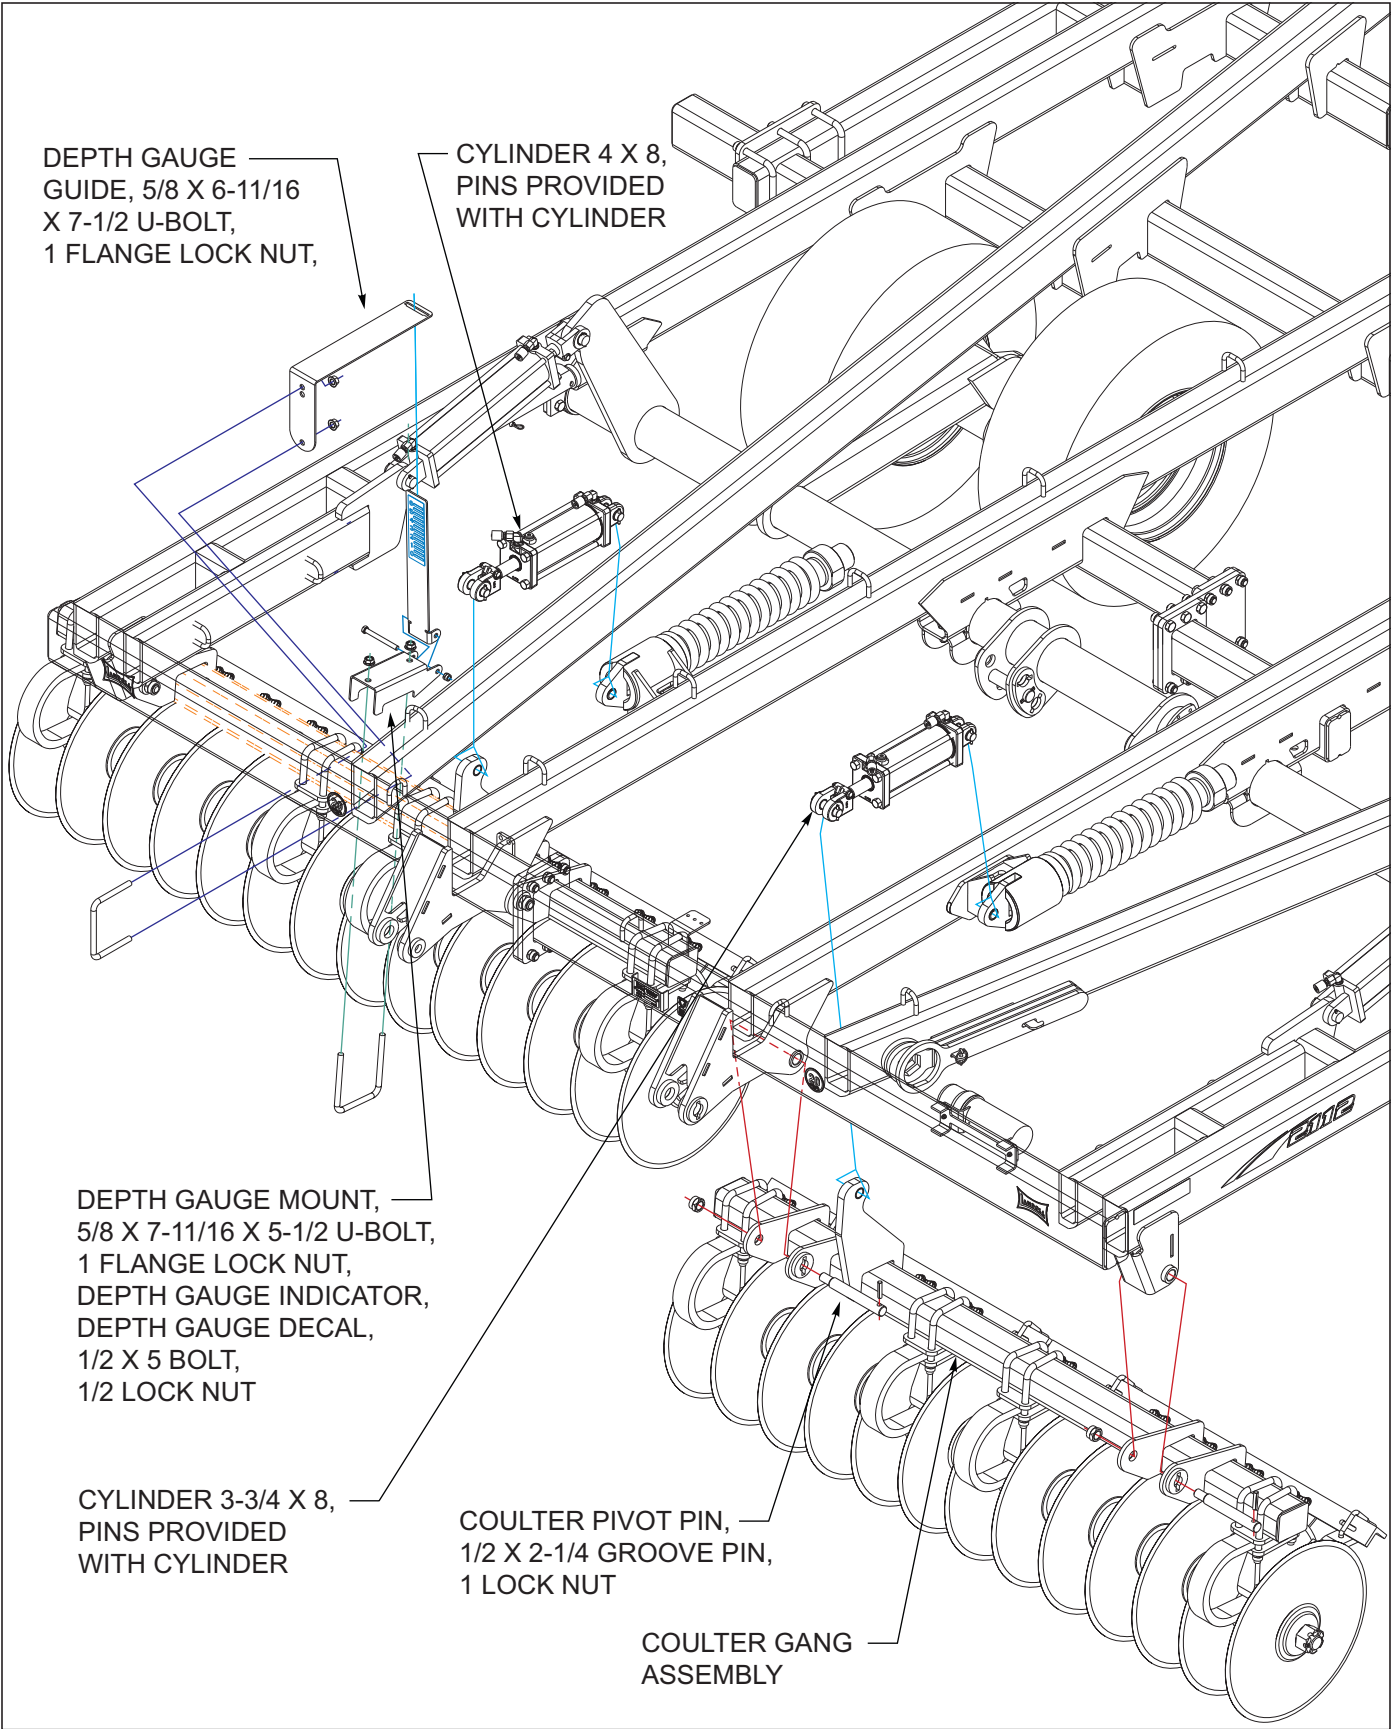
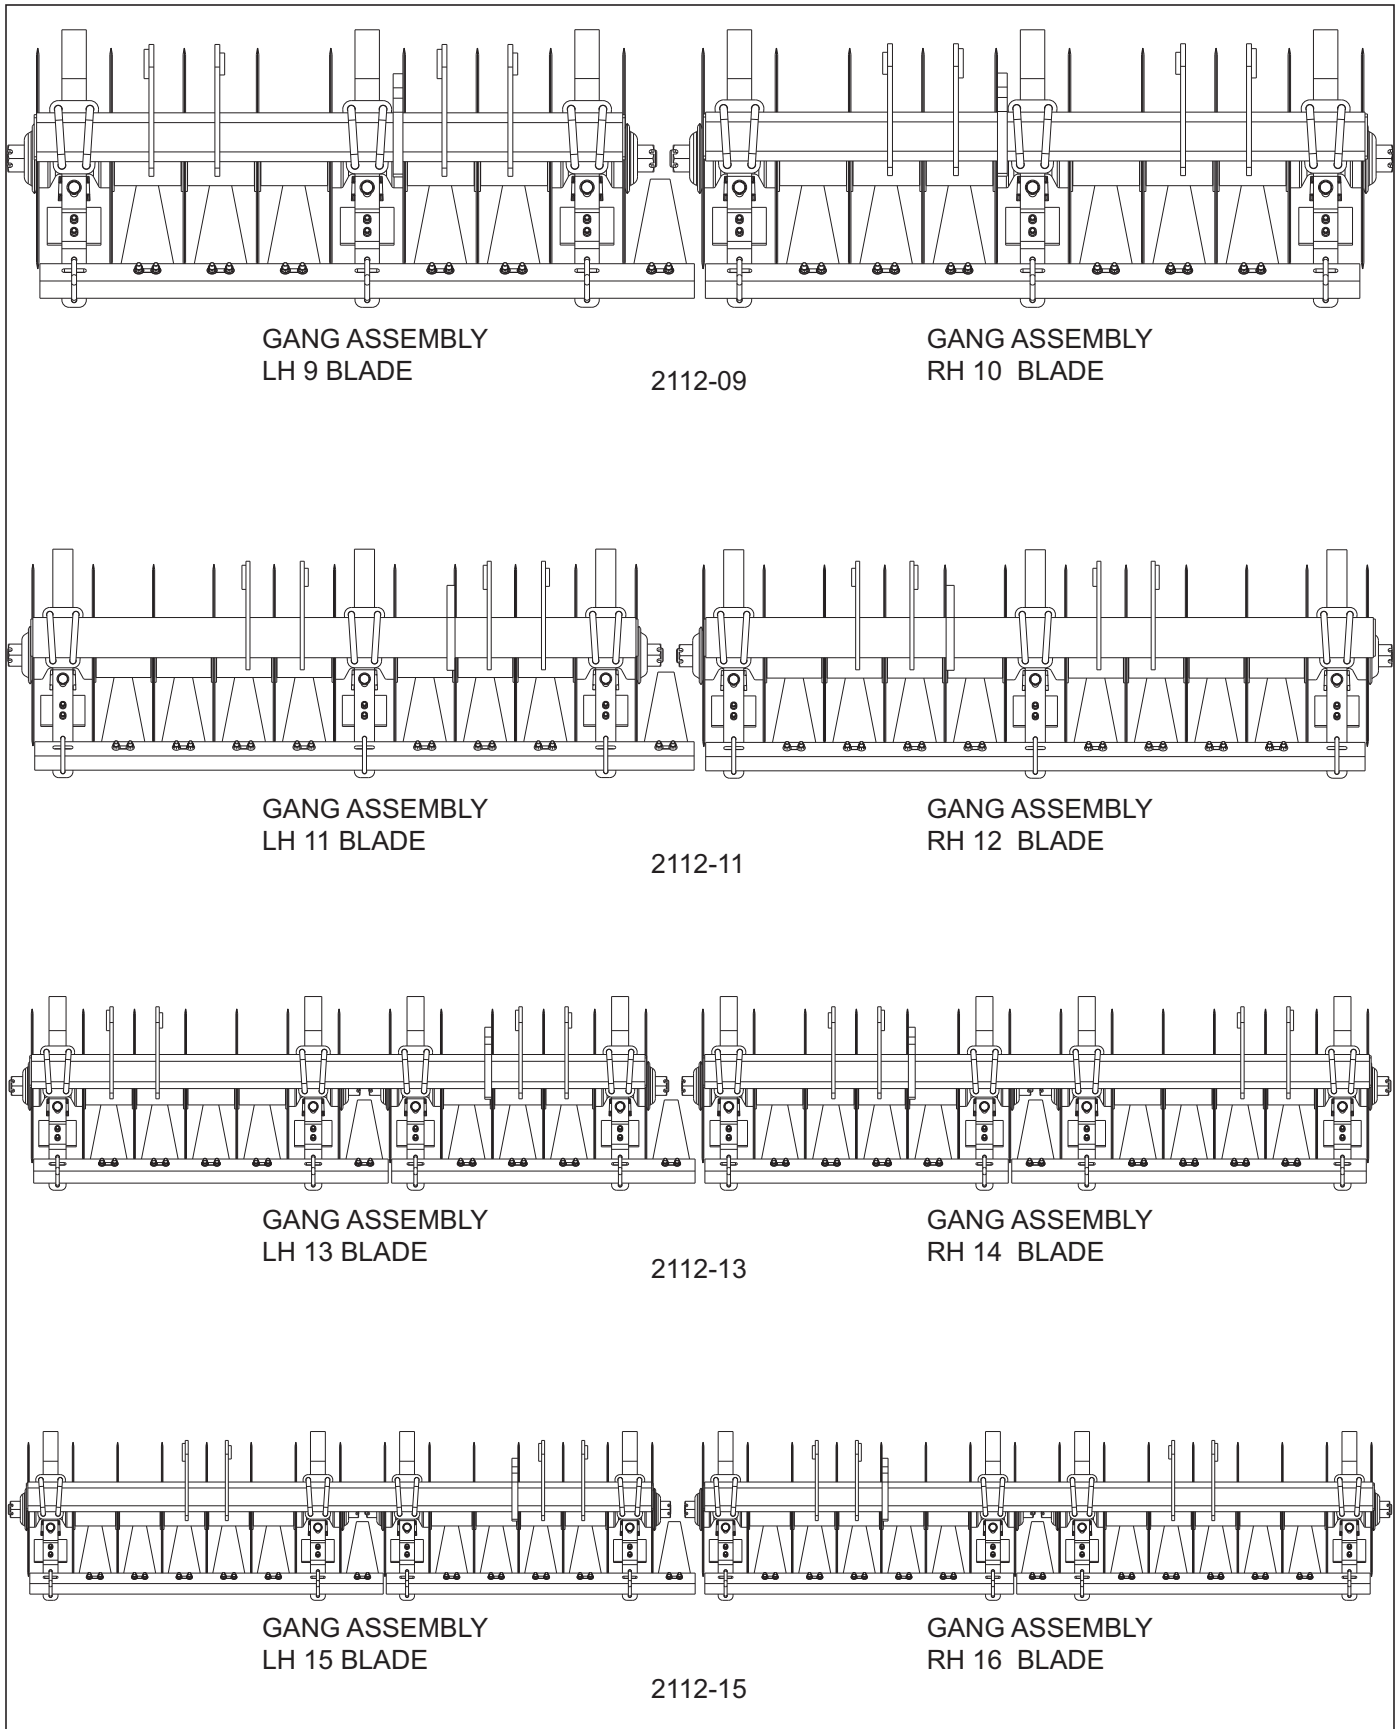

Figure 3-9: Coulters Gang Installation
Figure 3-10: Coulters Gang Placement
1. Attach the coulter gang assemblies to the center frame using coulter pivot pin, 1 lock nut, and 1/2 x 2-1/4 groove pin See Figure 3-9 and See Figure 3-10 for gang assembly placement.